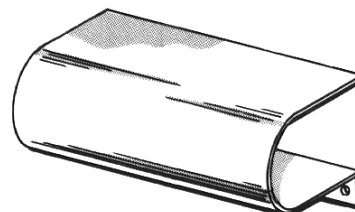

Fig. 20 Phase Crank Shield for 15kV back-connected jaw.
- l. For 15-kV installations and back-connected jaw only, mount the phase crank shield (shown in Fig. 20) over the phase crank shaft assembly at rear end of switch with two 1/4" - 20 x 3/4" long round head machine screws and lockwashers, into tapped holes on switch frame.
- This will complete the installation of the right hand pair of barriers as shown in Fig. 20. Repeat steps (a) thru (c) and install the left hand pair of barriers. This will complete the assembly of the four barriers. Note - no spacers are required between the two interphase barriers.